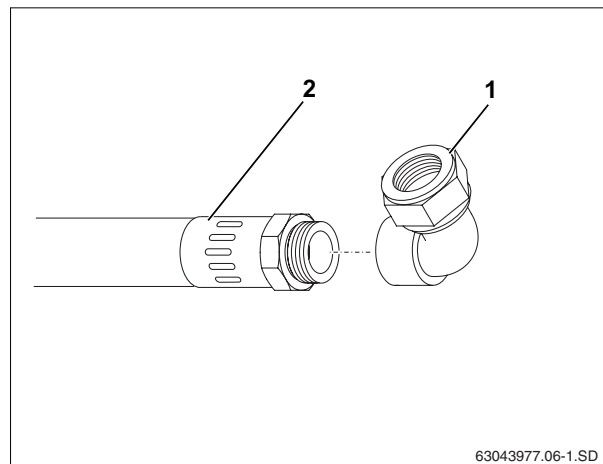

Fig. 5 Connecting the elbow compression fitting
- Screw the elbow compression fitting (Fig. 5, **Item 1**) onto the tank connection (Fig. 5, **Item 2**).